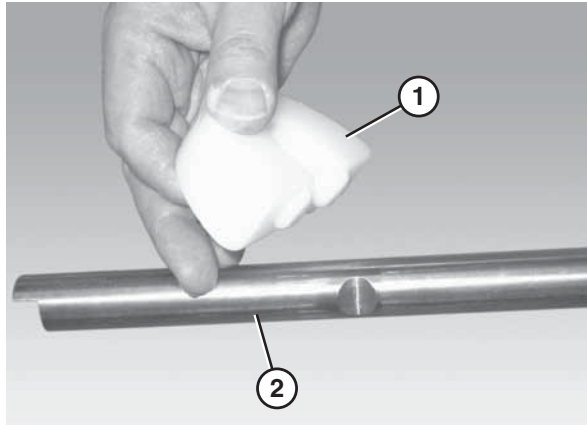

Figure 49
1. Attach the chain return shoes (**Figure 49, item 1**) to the return shaft (**Figure 49, item 2**).